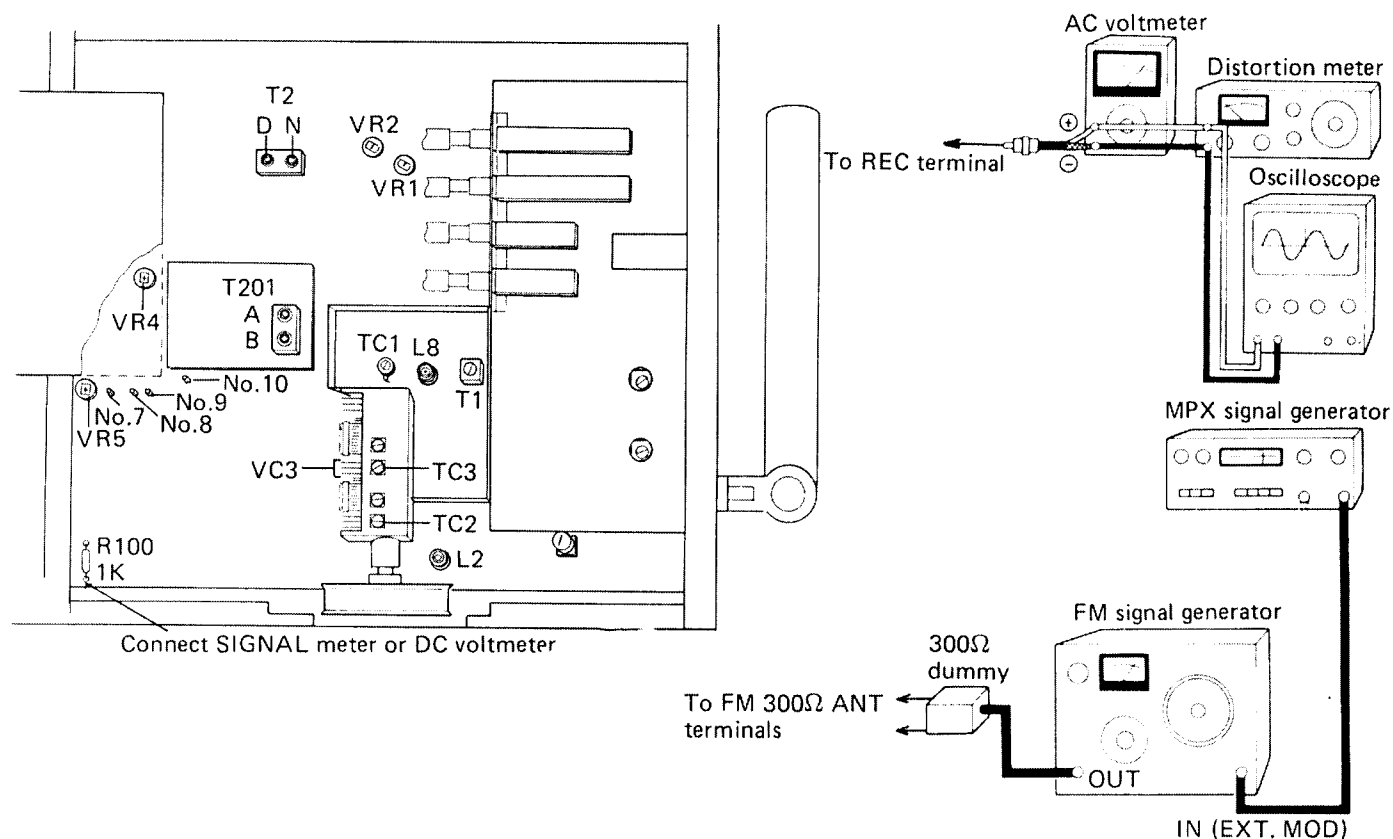

Fig. 8-2
1. Set up the test equipment as Fig. 8-2.